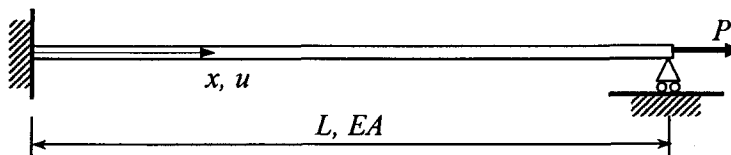

Figure 5
3. (a) The three basic relations that a structural mechanics problem must satisfy in order that exact solution is obtained are equilibrium, strain-displacement, and constitutive relations. Write down the three basic relations for the case of a simple 1D linearly elastic prismatic bar as shown in Figure 5. Subsequently, derive the following stiffness relation for the bar :